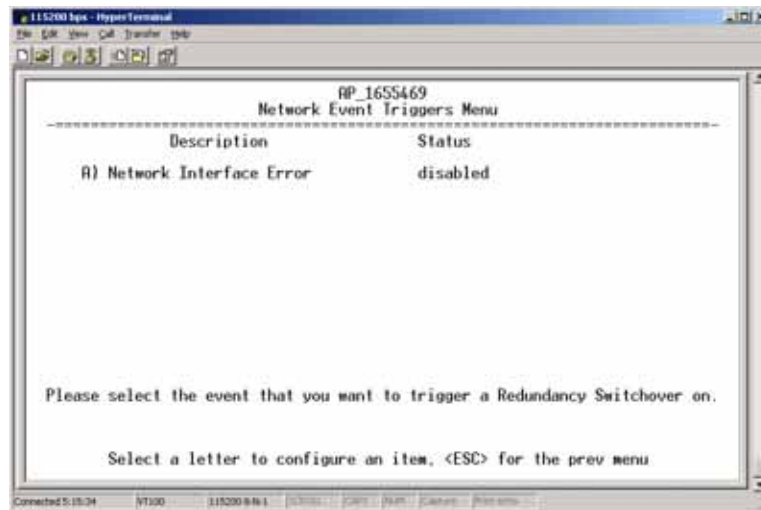

Figure 3-71. Network Events Triggers Menu
- **Network Event Triggers**—This selection opens a submenu (Figure 3-71 on Page 103) where you can set/view the trigger status for Network Events.